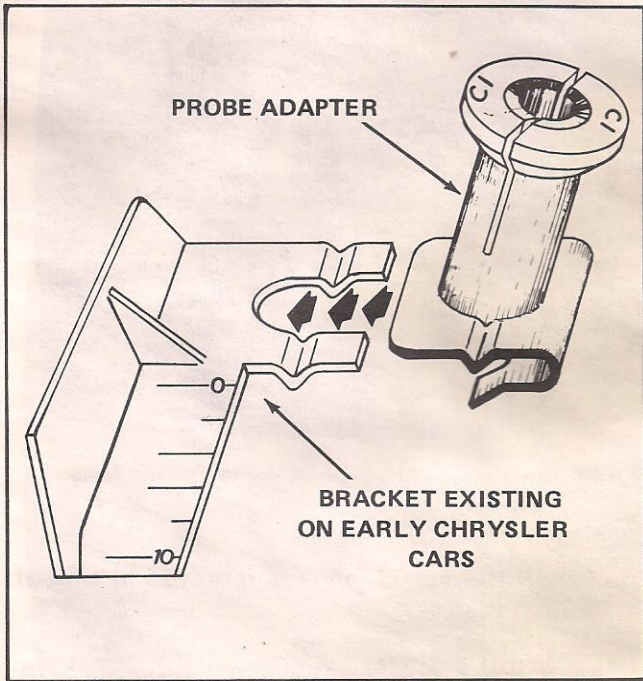
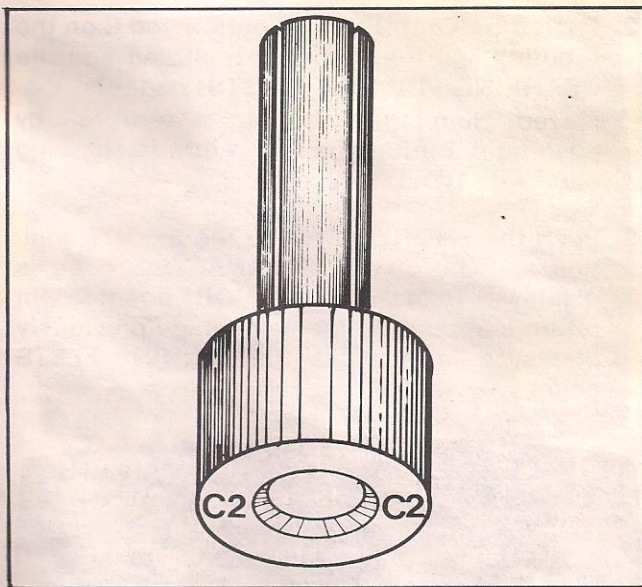

FIGURE 11—Adapter for early Chrysler cars.
FIGURE 12—Adapter for late Chrysler cars.
- b. Chrysler Products—(1) **Early type** for horse-shoe shaped holder, use Adapter C-1. Position adapter in timing bracket on timing cover as shown in Figure 11. (2) **Late type** for insert type holder, insert Adapter C-2 in timing bracket on timing chain cover. See Figure 12.